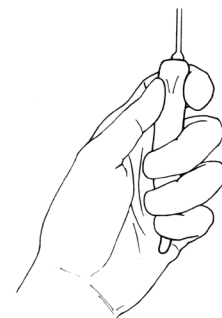

Figure 4-4d. Roll End of Cuff
8. Roll end of cuff with your thumb to squeeze large air bubble into tubing adapter. (**Figure 4-4d**)